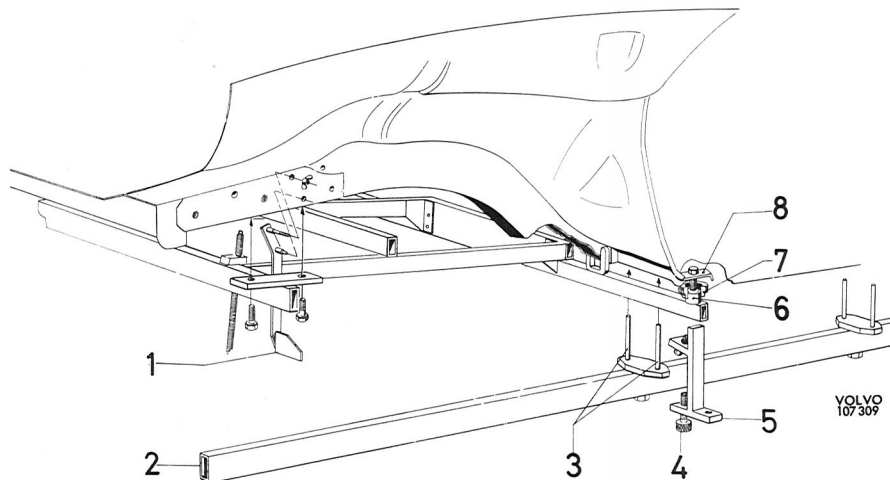

Fig. 8-8. Tools for replacing side members
1. Set up the fixture 2777. The rear guide pins with the guides 5001 and 5002 (7, Fig. 8-8) fit in the holes in the floor plating and are held in position by clasps (8).
2. Screw the holder 2893 (5) to the side member, with a bolt in the second attaching hole from the front for the rear engine mounting.
3. Place the straight edge 2891 (2) immediately under the side member so that the front support studs (3) are immediately behind the member for the jack attachment. Rotate the support studs so that they almost support against the sides